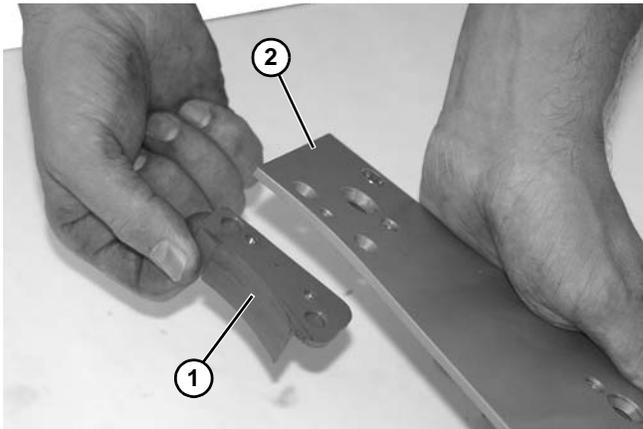

Figure 133
3. Remove lower retaining guide (Figure 133, item 1) from drive plate (Figure 133, item 2).